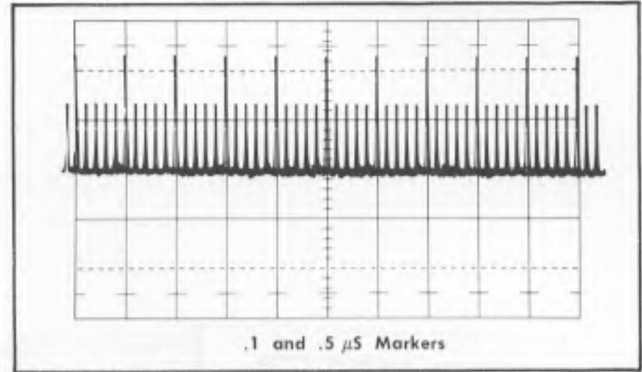

Fig. 6-8b. Typical display of .1 and .5 μS markers. C108 adjusted for accuracy of .5 μs markers. T-18 adjusted for uniformity of the .1 μs markers.
- Adjust L19 and C108 simultaneously for proper count of the .5 μS markers and uniformity of the .1 μS markers. See Fig. 6-8b.